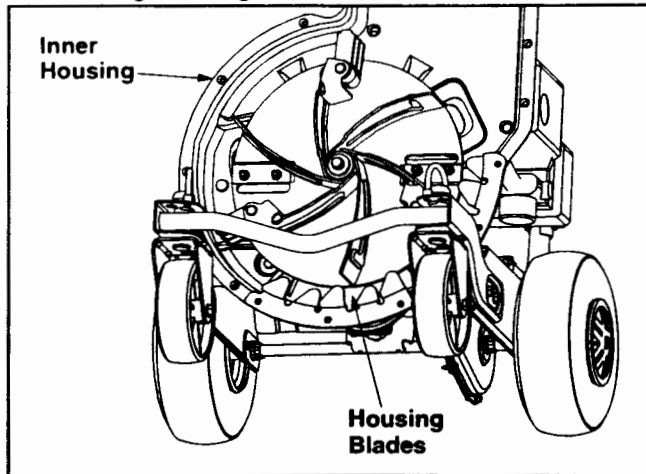

Figure 19
- Place the housing blades against the inner housing. See Figure 19.